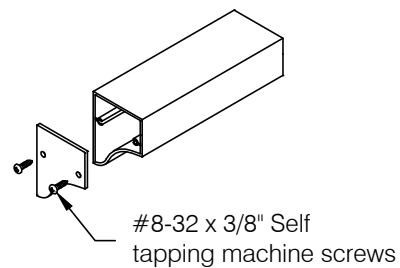

fig 7
- Step 8:** Attach end plates to open ends of continuous bracket using #8-32 x 3/8" type F Phillips pan head screws included. Install end plates only at ends where molded accessory occurs, see **fig 7**.